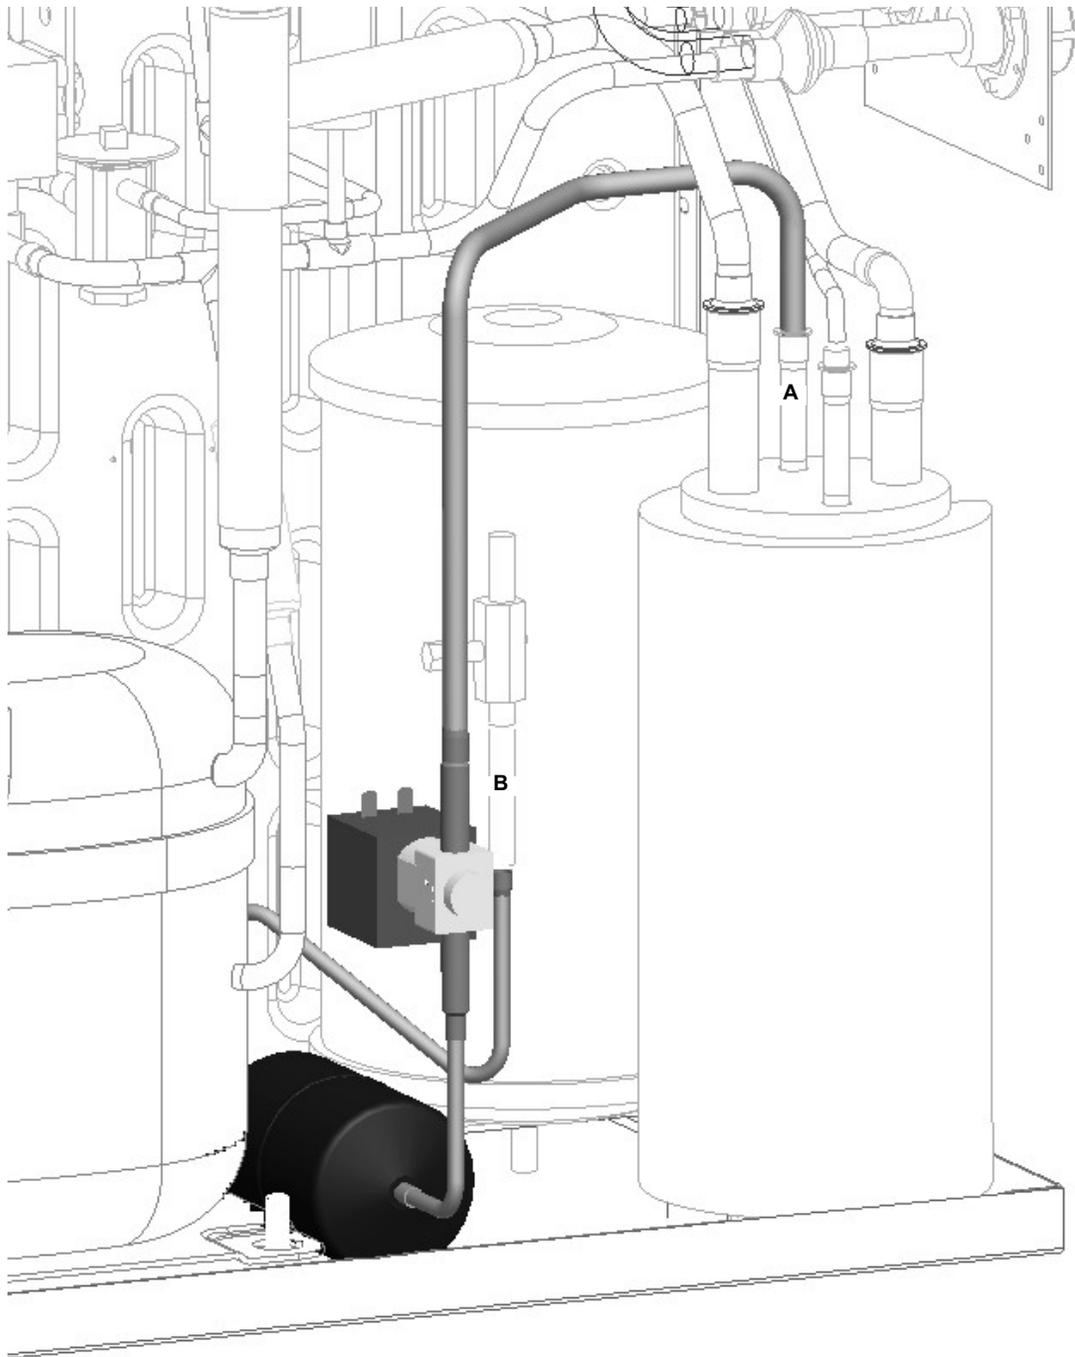

Figure 29.
Connect the filter side to the service port valve (B) on the receiver (Figure 29).